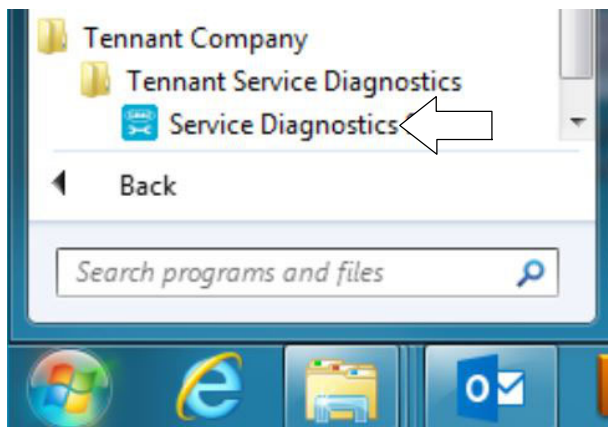

Fig. 29
The software is pre-installed on your computer as shown below. The software application is titled “**Service Diagnostics**” (Figure 29). ServiceLink computers have latest software version.
7. After the service application software is installed on your computer, refer to figure 29 to access the program.
5. After the software is installed on your computer, refer to figure 29 to access the program.